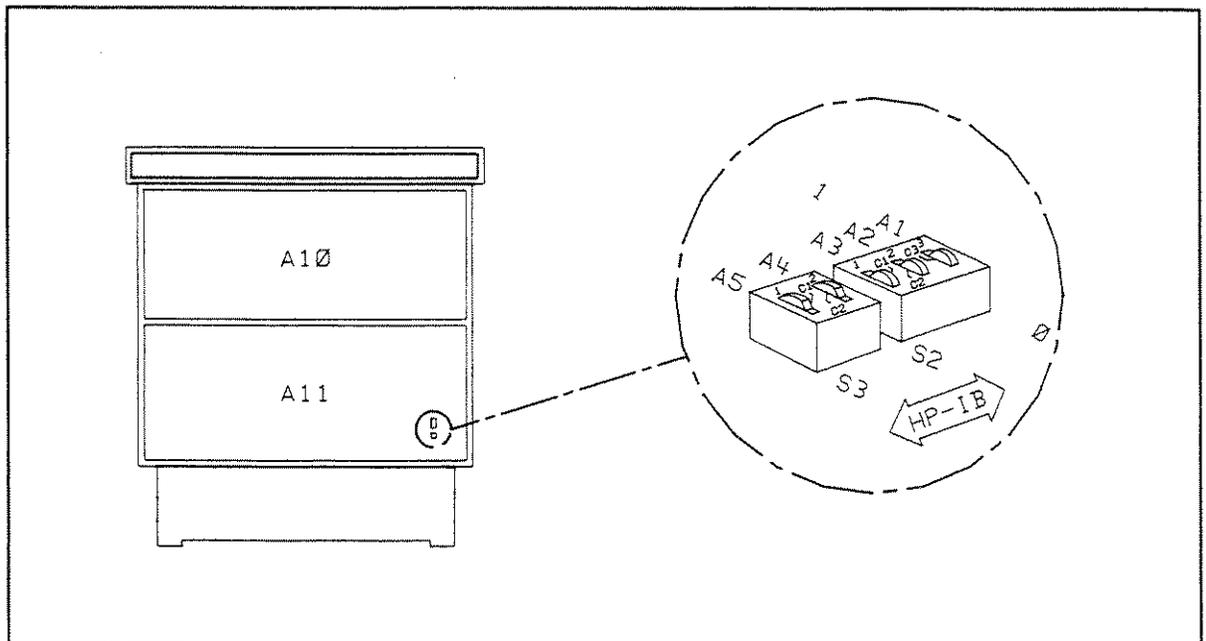

Figure 2-3. HP 8656B/8657A HP-IB Address Switch Location and Settings
- c. Locate the HP-IB address switches S2 and S3 on the A11 Microprocessor/Memory/HP-IB Assembly (see Figure 2-3).
- d. Use a pointed object (such as a pencil) to set the switches to the desired HP-IB address in binary (see Figure 2-3). The five switches are labeled A1 through A5, where A1 is the least significant address bit and A5 is the most significant address bit. Pressing the right-hand side of the switch (as viewed from the front of the Signal Generator) "sets" the corresponding address bit (bit = 1), while pressing the left-hand side "clears" the bit (bit = 0). Setting all of the address bits to "1" will result in an invalid HP-IB address (31 decimal). In this case, an HP-IB address of 30 (decimal) is stored in memory once the Signal Generator is powered up.